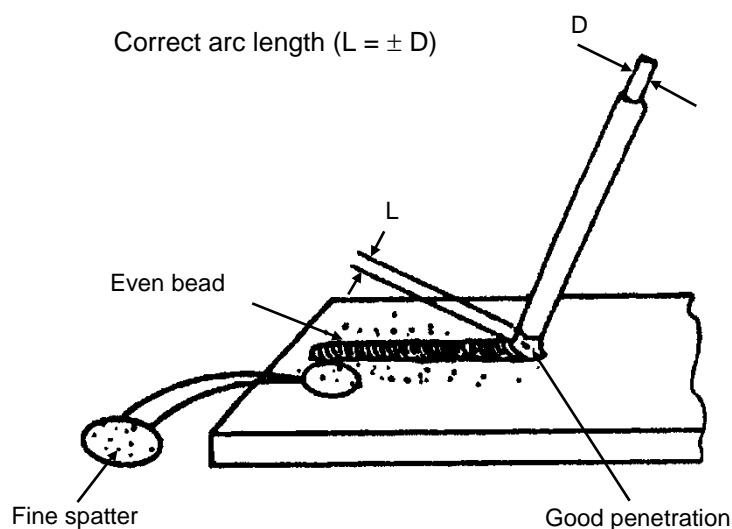

FIG 27.
- J. If the correct arc length has been maintained, the run will be as shown in Fig 27.